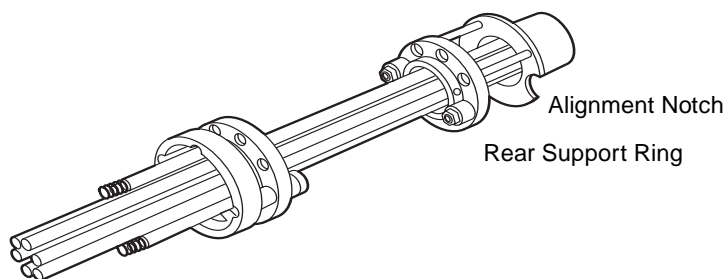

Figure 5-13 Hexapole Assembly
2. Use your hand to gently grasp the hexapole (Figure 5-13), and retract it carefully from the analyser assembly.
7. Insert the assembly, aligning the notches in the differential aperture at its rear with the two bottom support rails on the analyser assembly. Carefully slide the assembly into place (Figure 5-13). Be sure to insert the assembly fully.